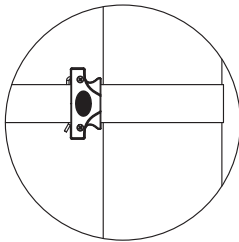

Figure 1
1. The tape can be locked firmly on itself by means of the fixing pin after being passed around a pole or a fixed object. (fig.1)